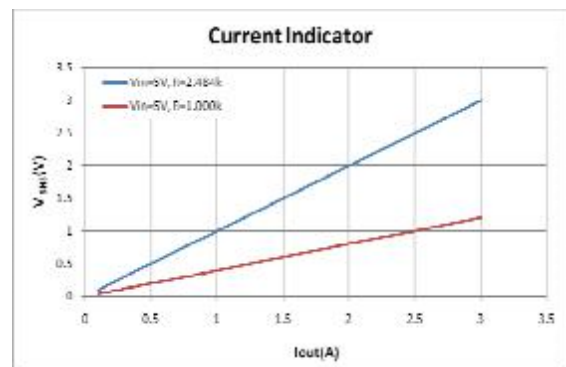

Fig. 1 Relationship between V_{ISNS} and I_{OUT} with different R_{SNS}
SY6818 has a current indicator pin ISNS with very high accuracy. It is easily to monitor the current flowing through the power switch by reading the voltage on ISNS directly. The indication function is shown in (2). The voltage rating of this pin is 6V and SY6818 has a default current limit around 5A internally. Therefore, it is recommended strongly not to use an indication resistor too large, as shown in (3). When the current exceeds the default current limit, the power FET switches off and restarts automatically. The accuracy higher than 5% is achieved at 1A output current and that higher than 7% is achieved at 0.5A output current, as shown in Fig. 1 and Fig.2 respectively.